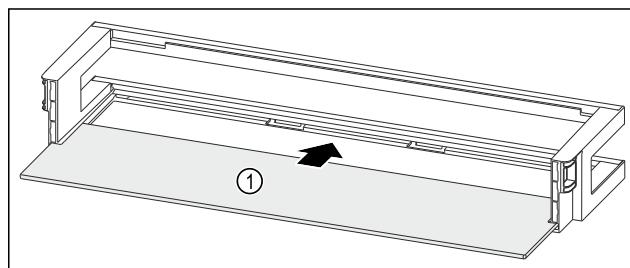

Fig. 118 Door racks with shelf
- ▶ Push the shelf Fig. 118 (1) into the side cutouts.